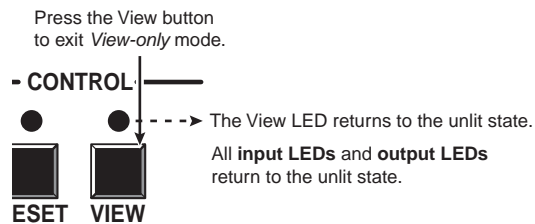

Figure 3-27 — Press the View button to exit View-only mode
- Press and release the View button to exit *View-only* mode (figure 3-27).